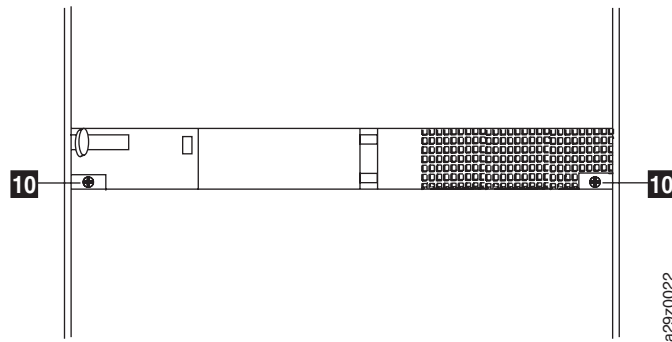

Figure 3-12. Securing the rear of the library in the rack
- Secure the rear of the library to the rack using a round-head screw **10** on each rear bracket (Figure 3-12). Tighten the other rear bracket screws to secure the library to the rack.